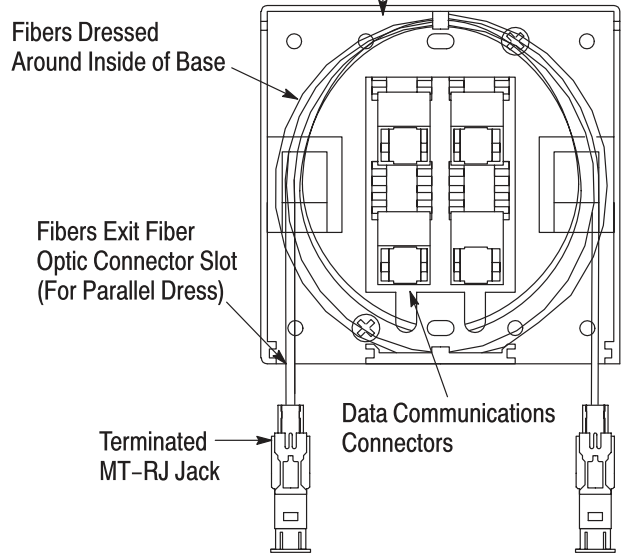

Figure 4
3. Carefully position the outlet base over the opening in the mounting surface, and secure the base with the mounting screws. Make sure that the jacket of the fiber optic cable is exposed through the front of the base. See Figure 4.
4. Dress the optical fibers around the inside of the outlet base. For parallel dress, the fibers must exit the fiber optic connector slot adjacent to the jack. See Figure 4.